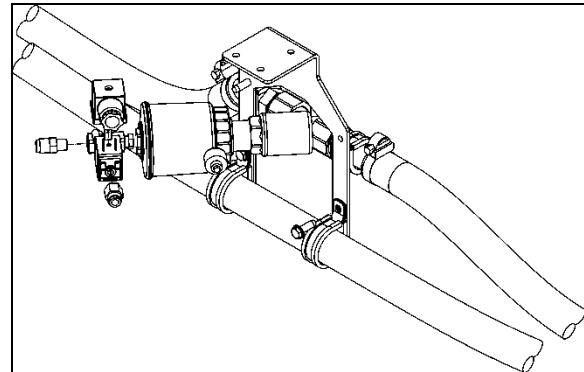

FIGURE 71: DRIVER'S UNIT HOT WATER PNEUMATIC VALVE ASSEMBLY
The flow of hot water to the driver's unit heater core is controlled by a normally-open (NO) pneumatic valve like. The valve, located at the ceiling of the spare wheel compartment (Figure 71), is designed so that the pilot solenoid valve, which is part of the assembly, opens and closes a port which directs air pressure to the actuator casing, thereby opening or closing the valve.
2. Locate the normally open hot water pneumatic valve on the ceiling of the spare wheel compartment (Figure 71), disconnect its wiring connector, and then connect a 24-volt external power source, using jumper cables, to close valve.